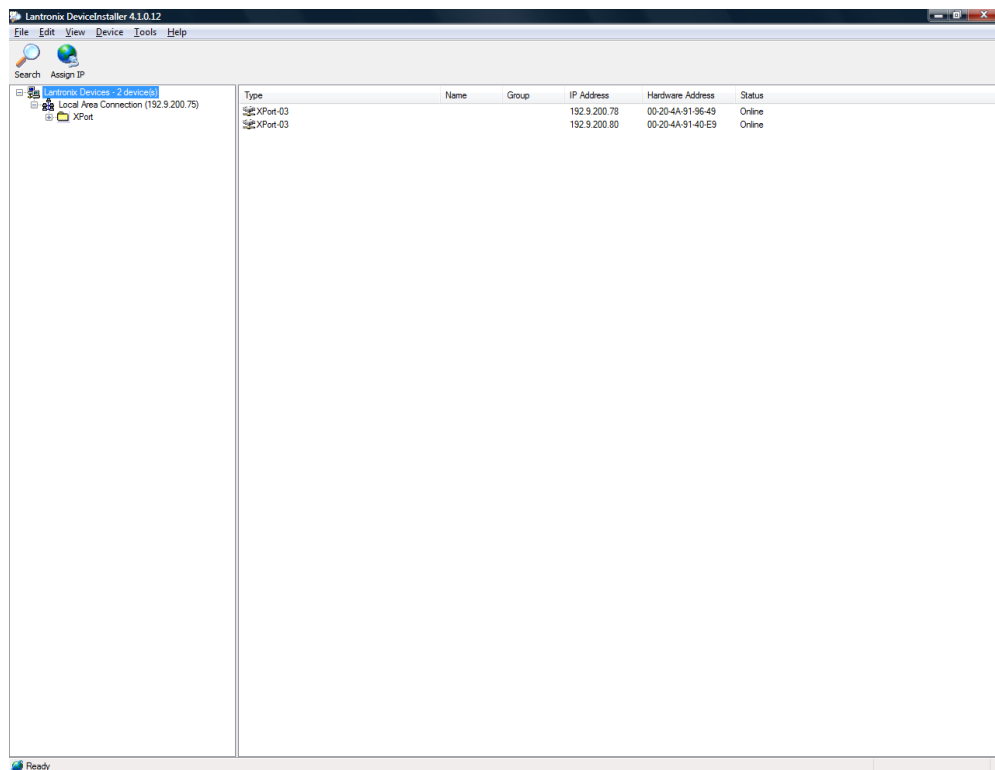

Figure 1
3. Start the program and press the “Search” button in the upper left as shown in figure 1. The software should find the Apprentice II TCP/IP panels devices as shown.